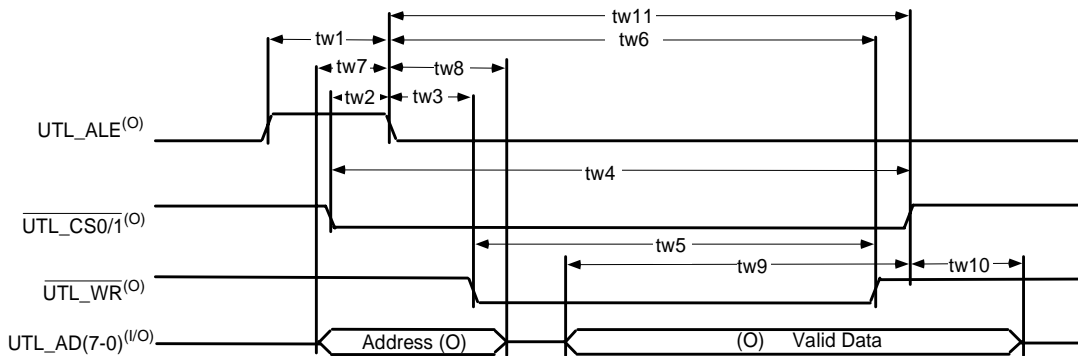

Figure 4 Utility Bus Write Cycle
**Utility Bus Write Cycle (See Figure 4)**